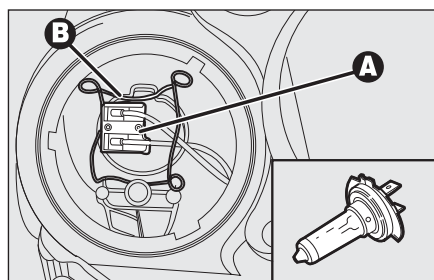

fig. 26
- ☐ disconnect the electric connector **A-fig. 26**;
- ☐ fit the new bulb and refit bulb holder catch **B**-fig. 26;